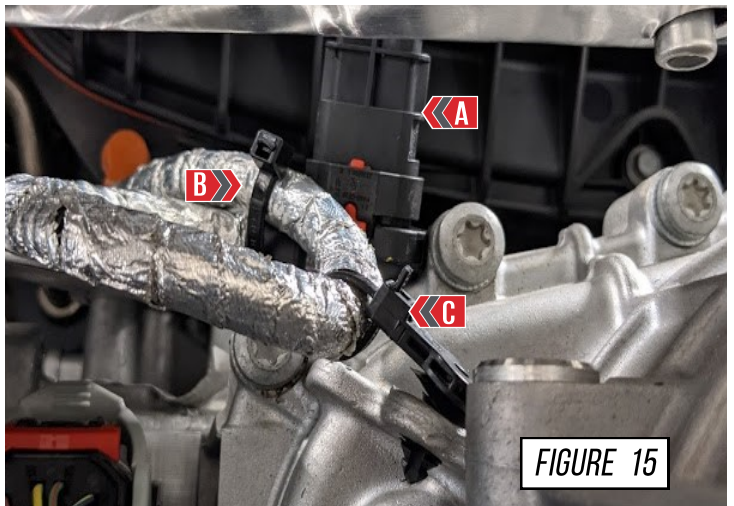

FIGURE 15
Using the supplied zip tie to secure it into place, as shown at (A) in **Figure 15**.
**Note:** The zip tie shown at (B) is used to hold the AWE GM electronic valve simulator into place. The zip tie shown at (C) is an OE zip tie.